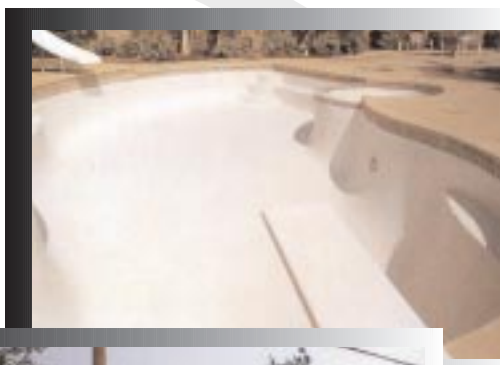

Fig. 8. White traffic barrier sections are bright and highly visible to drivers.
- transportation projects: traffic barriers, railroad crossings (see Fig. 8)
White or colored concrete can also be used to improve the safety of other concrete construction. Transportation projects incorporating white or colored concrete have a strong visual aspect. Cast-in-place or precast concrete elements can be used. For example, at-grade rail crossings can be made from colored, stamped concrete. This delineates the crossing from the rest of the pavement for pedestrians while providing a uniform surface for motorists. As another example, median ("Jersey") barriers made of white concrete not only physically separate vehicles from hazards, but have the added benefit of improved safety because they are highly visible, even at night (see Fig. 8).